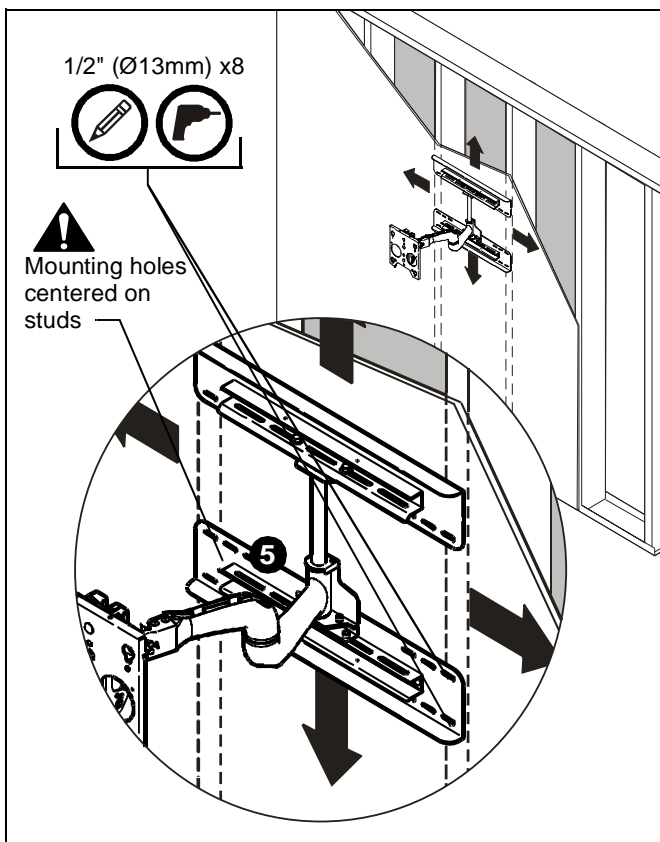

Figure 3
WARNING: IMPROPER INSTALLATION CAN LEAD TO EQUIPMENT FALLING CAUSING SERIOUS PERSONAL INJURY OR DAMAGE TO EQUIPMENT! Make sure upper and lower mounting holes are used on both sides of both the upper and lower wall plates (A)! (See Figure 3)